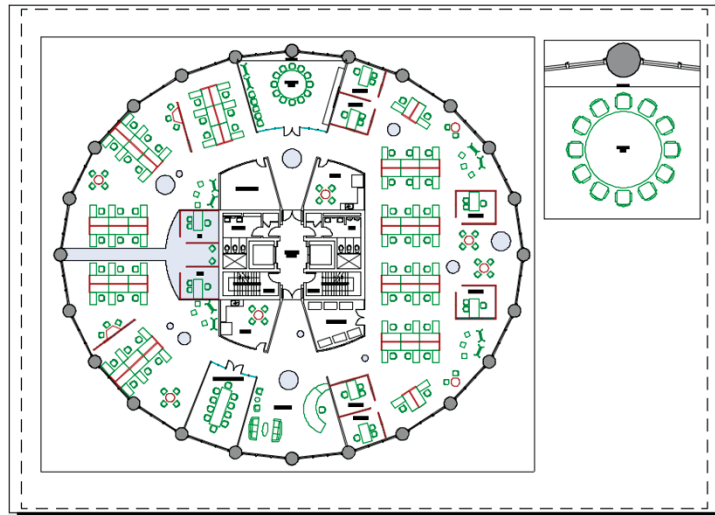

FIGURE 13.20 Creating and configuring a new viewport detailing the Conference Room
10. Double-click within the new viewport to enter its model space. Select 1/2" = 1'-0" (or 1:20 in metric) in the Viewport Scale menu on the status bar; the viewports zoom into the Elevator Lobby again. Pan downward until you center the view on the Conference Room. Double-click outside the viewport to return to paper space. Figure 13.20 shows the result.